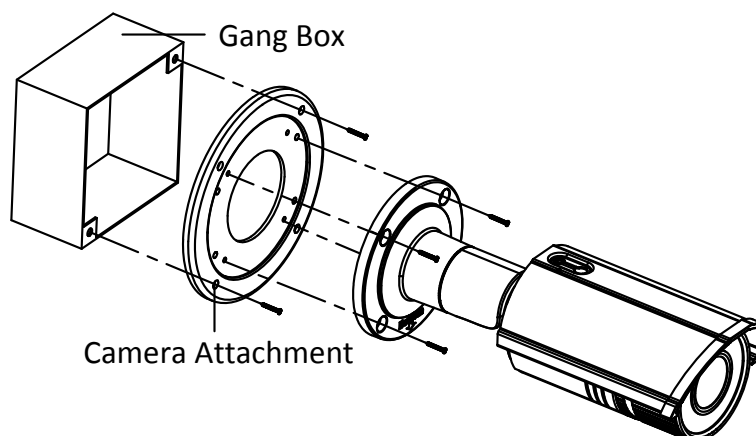

Figure 6-31 Secure the Camera
3. Secure the camera to the camera attachment with screws. Refer to the Figure 6-31.